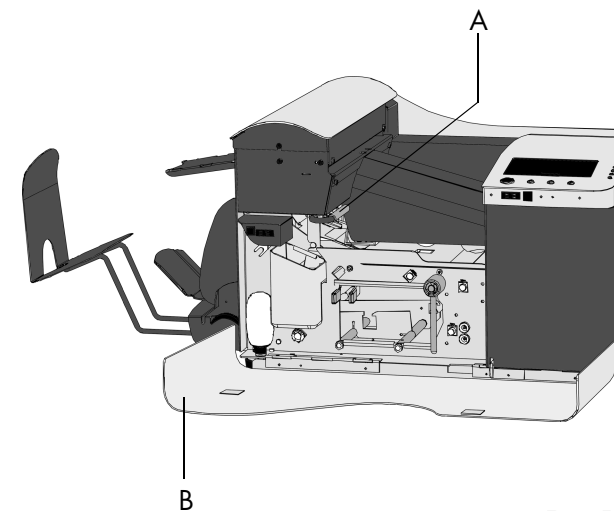

Fig. 52
- open the side cover B (fig. 52).
- lift the locking lever A (fig. 52) of the loc and pull the loc up into the vertical position.